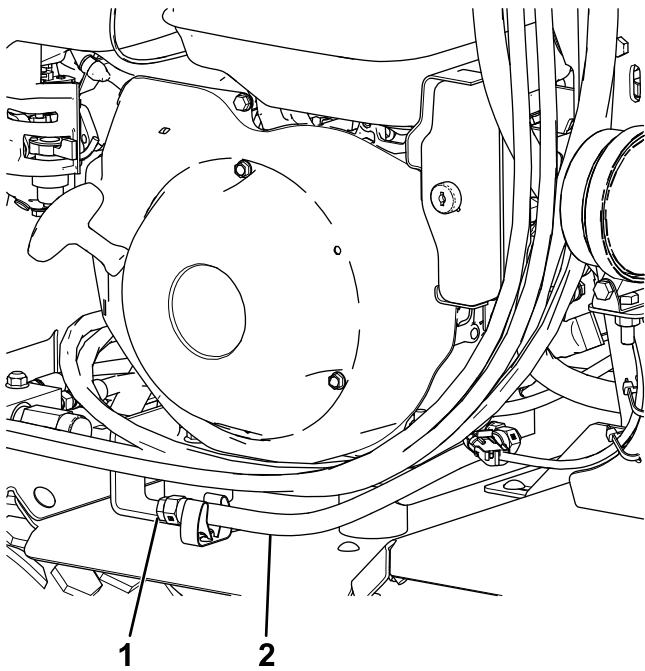

Figure 34
3. Aim the oil-drain hose over the side of the machine and place a receptacle under the end (Figure 34).
4. Remove the drain plug at the end of the hose (Figure 34).
5. When the oil has drained completely, install the drain plug (Figure 34).